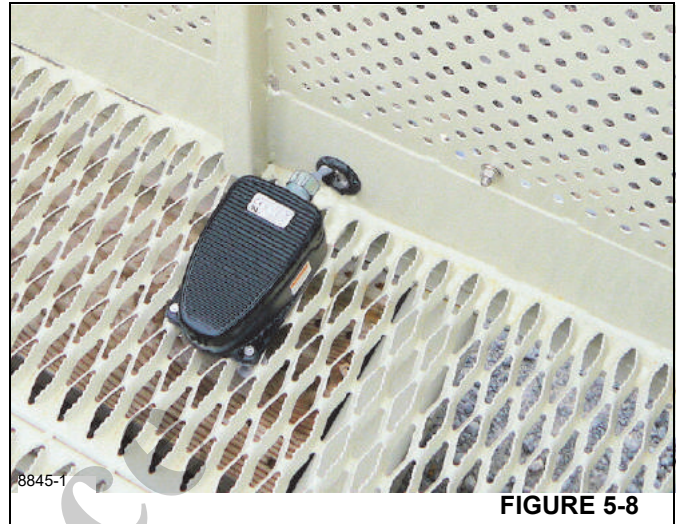

FIGURE 5-8
2. Verify that float selector is in raised/up position and brake selector is in clockwise (CW) position. This allows platform to rotate freely and remain level as it is raised to working position. See "Platform Brake Operation" on page 6-17.
4. Slowly move joystick, in desired function direction, until desired speed is obtained. (Reference Figure 5-8).
If a platform function is not activated within 10 seconds, the platform controls are deactivated. The operator must step off the operator presence footswitch, then depress it again to activate the platform controls. (Reference Figure 5-8).